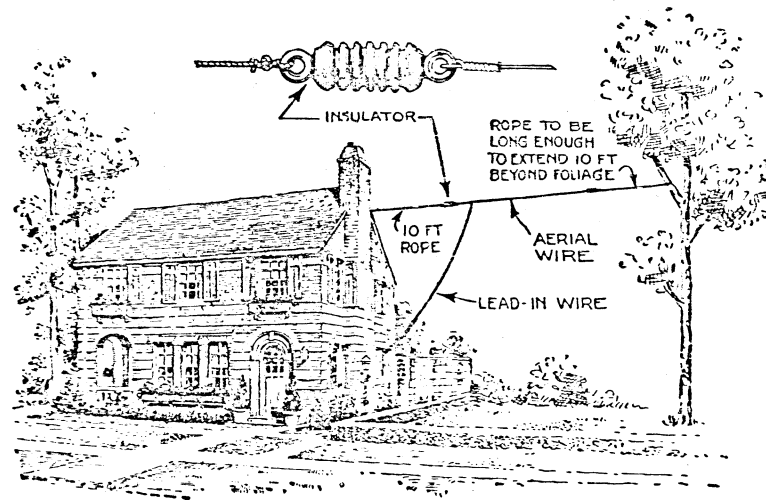

Fig. 2
**OUTDOOR ANTENNAS:** Where an open wire antenna is to be used, best operation of this receiver will be secured through the use of an outdoor antenna suspended well above ground. This antenna can be erected most simply as shown in Fig. 2. It should be supported as high above ground as possible, and its length should not be less than 70 feet, nor more than 150 feet where a single wire is used.